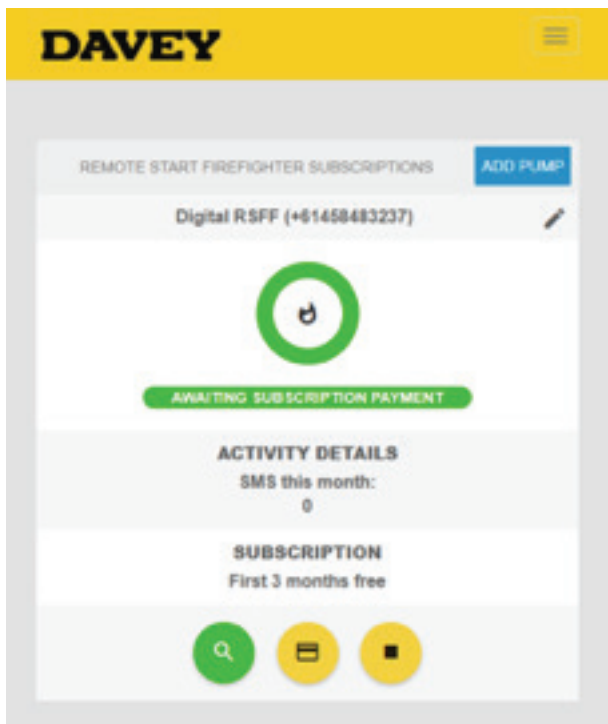

Figure 7.16
- > Upon successful registration of account and pump SIM card, you’ll see Figure 7.16;